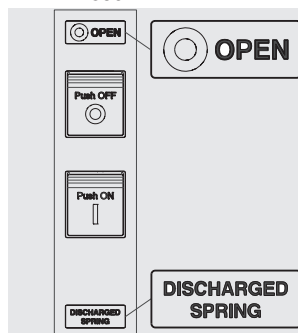

Figure 31
1. Circuit-breaker open with springs discharged (see Figure 31).